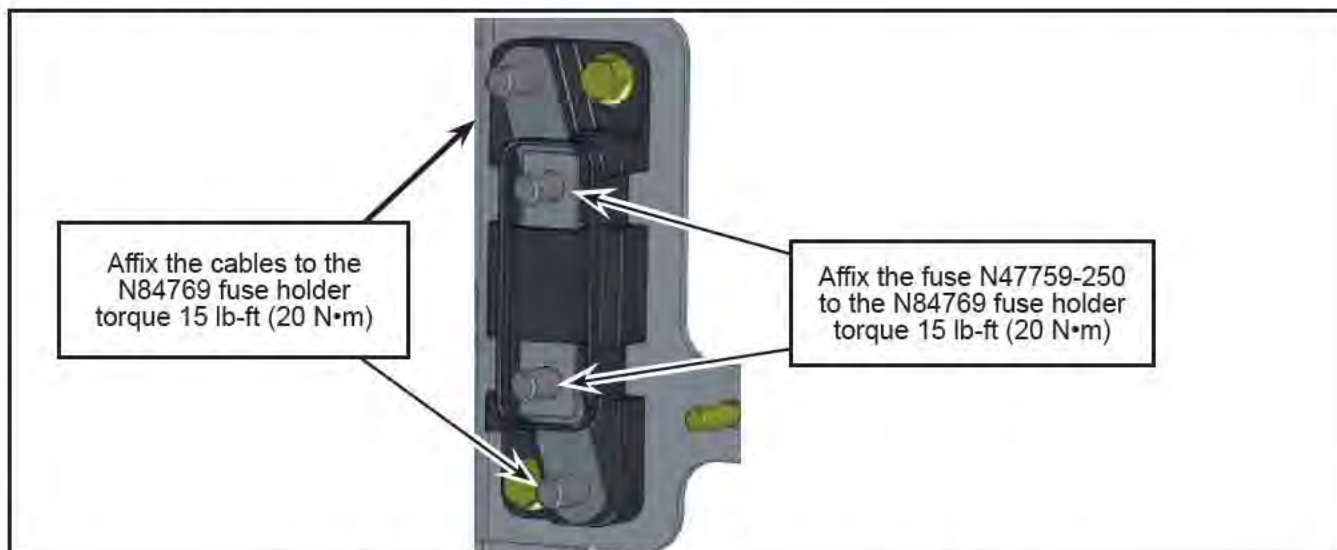

Figure 8 - Torque for the Instalation of the Cables and N47759-250 Fuse
- 1.21. Install the fuse N47759-250 in the fuse holder using the retained M8 nuts. See Figure 8 for torque value
- 1.22. Affix the cables to the fuse holder using the retained M8 nuts. See Figure 8 for torque value. Do not apply torque seal at this step.